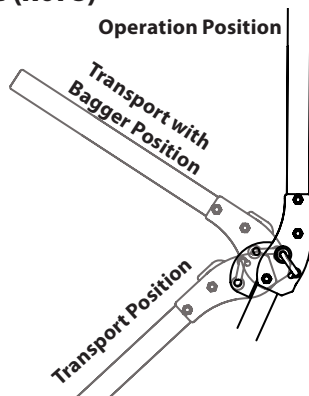

Figure 22
Refer to Figure 22 and the following descriptions and uses for the three (3) positions for the ROPS.
2. Move the ROPS into the desired position. The three positions are TRANSPORT position, TRANSPORT WITH BAGGER position and into the OPERATION position. See Figure 22.